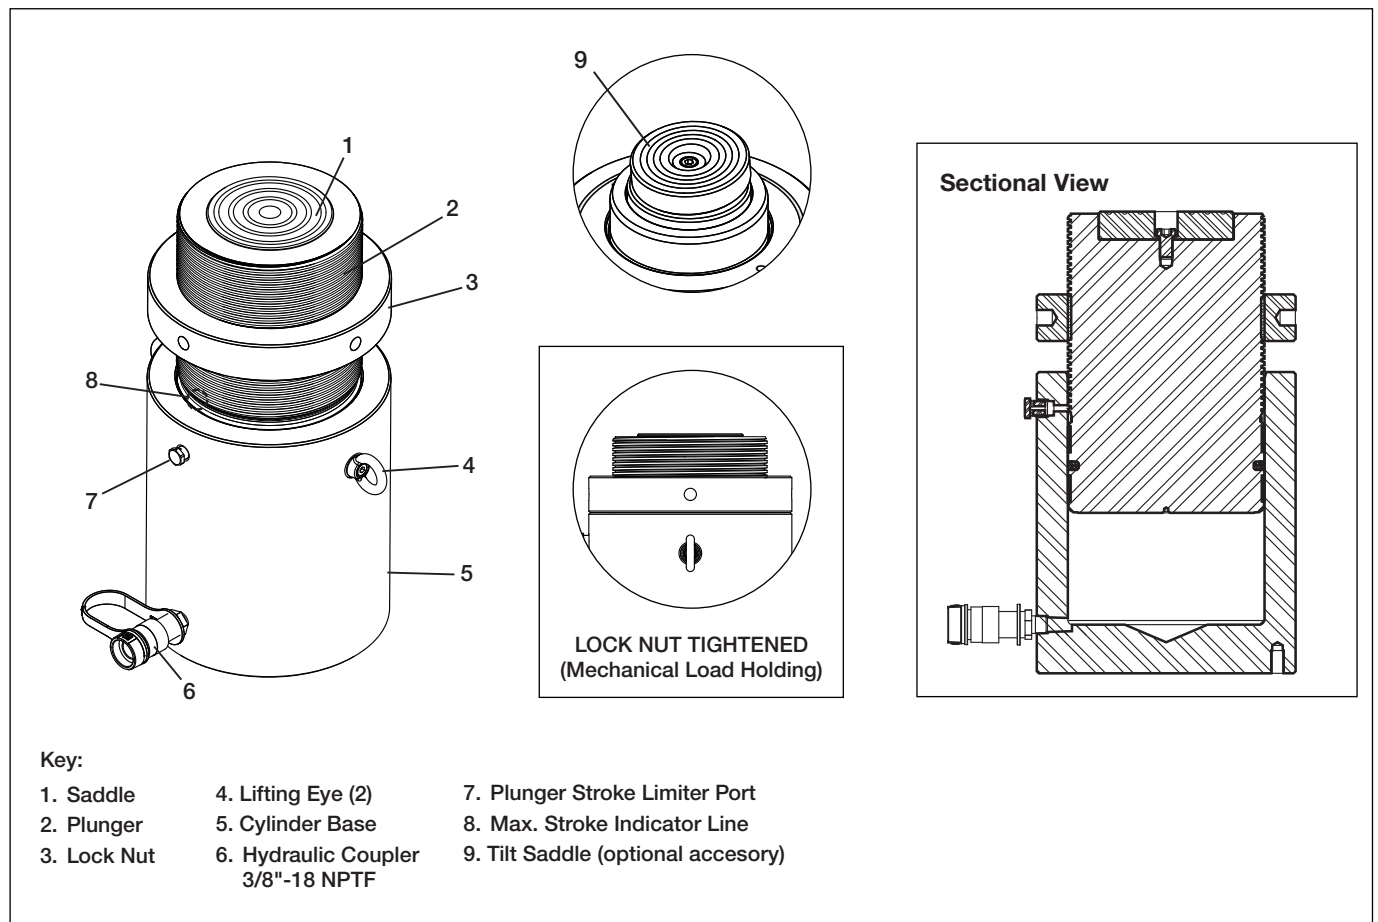

Figure 2, Major Features and Components
All HCL-Series cylinders are equipped with one 3/8"-18 NPTF female hydraulic coupler. Refer to Figure 2, item 6 for location.